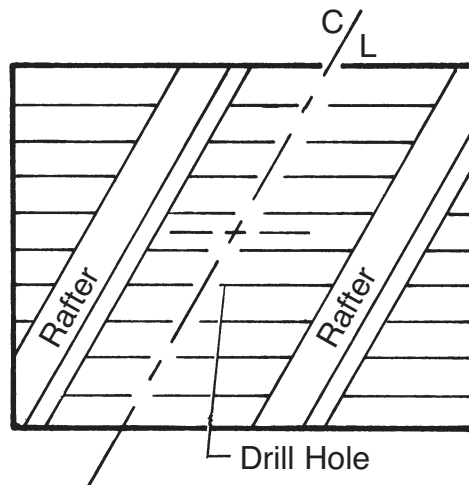

FIG. 2
2. After locating unit in desired installation position on top of roof, measure from the unit to the ends of the roof and to the ridgeline. Using these measurements, locate the spot inside the attic directly under the spot on the roof where the unit has been placed. Locate a centerline position between two rafters as close as possible to this established position and drill a pilot hole through the roof from the inside. See Fig. 2.